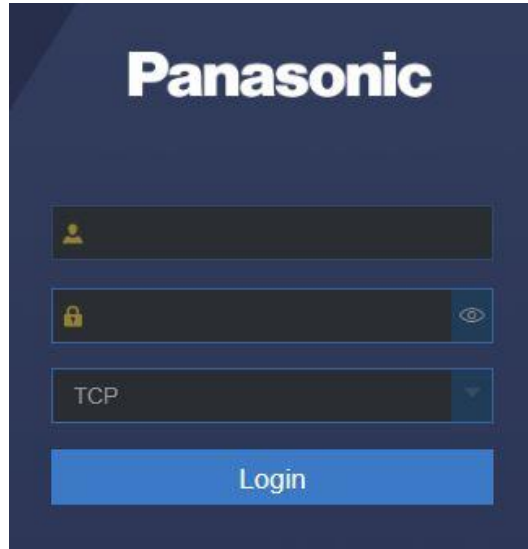

Figure 6-1
1. Open the IE browser, enter the IP address of the Device, and then press Enter. The Login in dialog box is displayed. See Figure 6-1.